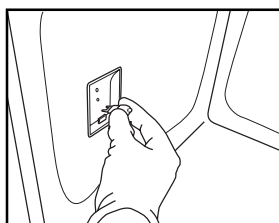

Fig. 6
4. Replace the lamp (see note for lamp type) (Fig. 6).